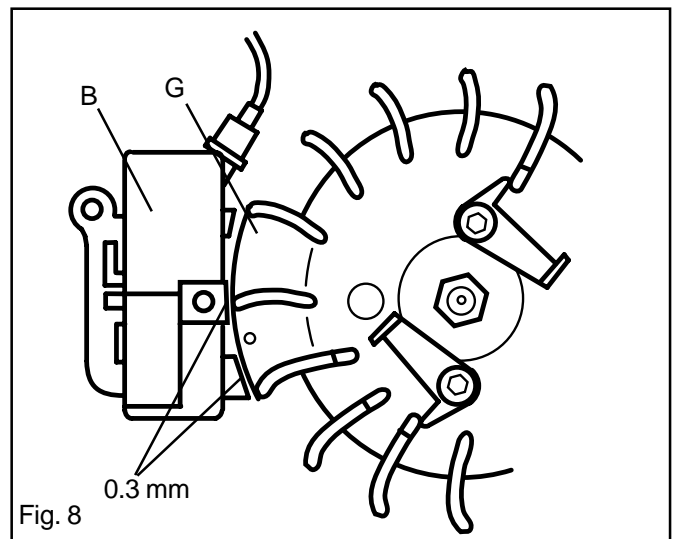

Fig. 8
5. Fit the ignition module (B) without tightening its bolts. See fig. 8.